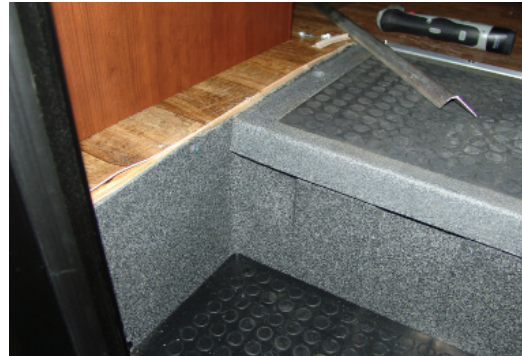

Figure 4
7. Open the entry door and remove the aluminum perimeter trim covering the floor at the left and right-hand sides of the step. See Figure 4.